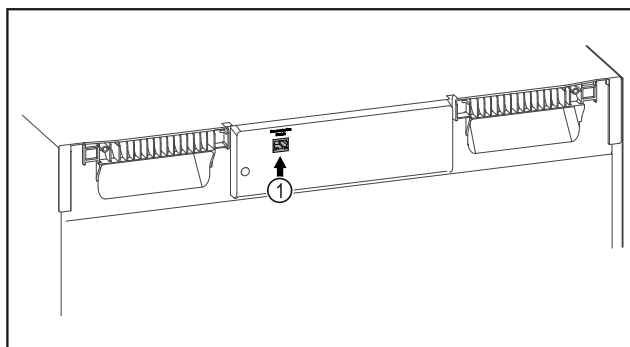

Fig. 78
- ☐ SmartModule Fig. 78 (1) is in use.